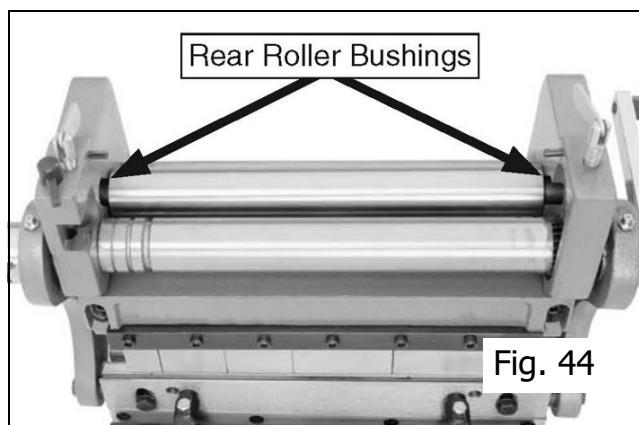

Fig. 44
5. Use a stiff brush and de-greasing spirits to clean the rear roller bushings (see Figure 44).